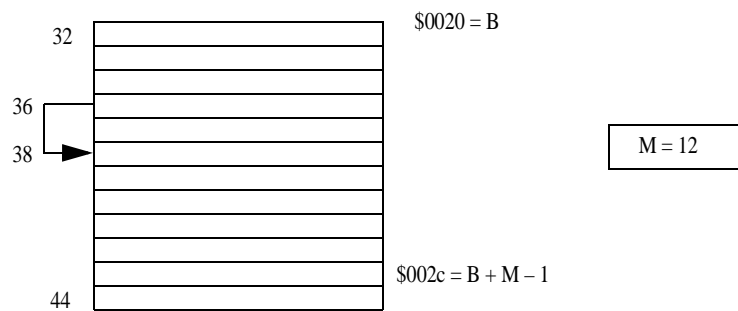

Figure 2-15. Modulo Addressing Example
Modulo addressing is illustrated in Figure 2-15. Addresses will be kept within the eleven addresses shown. For the instruction, `move.w (r0+$000e),d0`, the access will be made from \$26 (38), if the base address is \$20, the modulus is \$c, and $r0$ is \$24. The operation is $36 + 14 = 50 = 38$ in modulus 12, base address 32 ($50 - 44 + 32 = 38$).